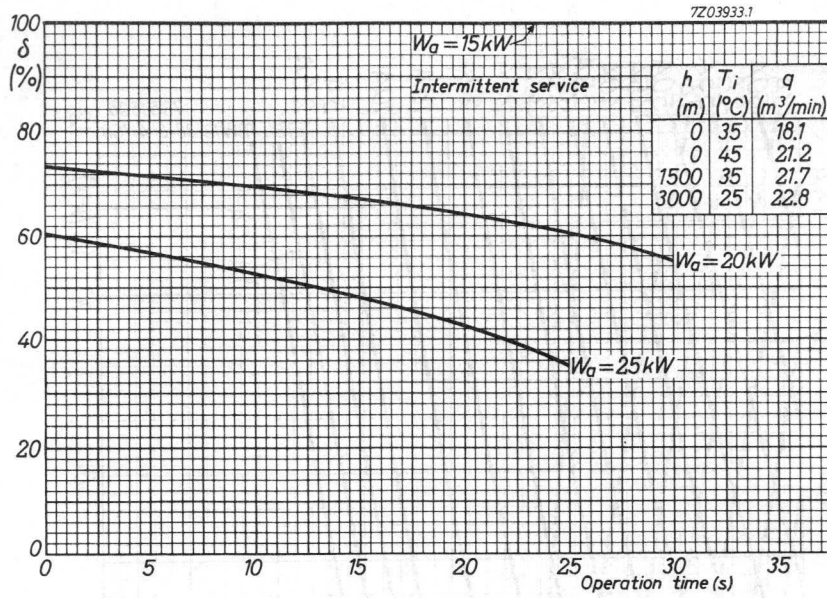

Fig. 3 Intermittent service. Limits of anode dissipation and cooling.
* TBW12/38: W_a max. = 20 kW (for intermittent service see Fig. 3).